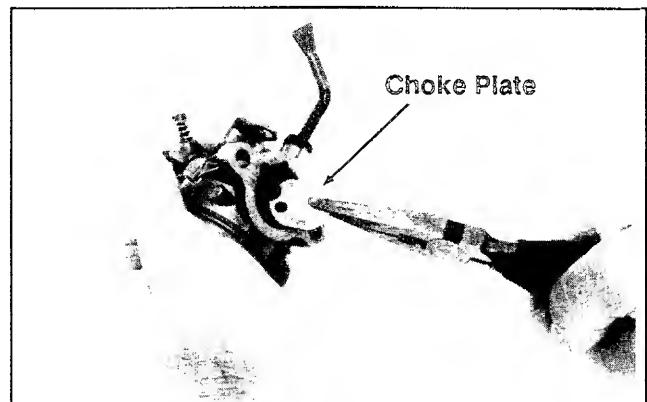

Figure 5-6. Removing Choke Plate.
2. Grasp the choke plate with a pliers. Pull it out of the slot in the choke shaft. See Figure 5-6. The choke plate on CH6 is secured with two screws – remove the screws and choke plate.